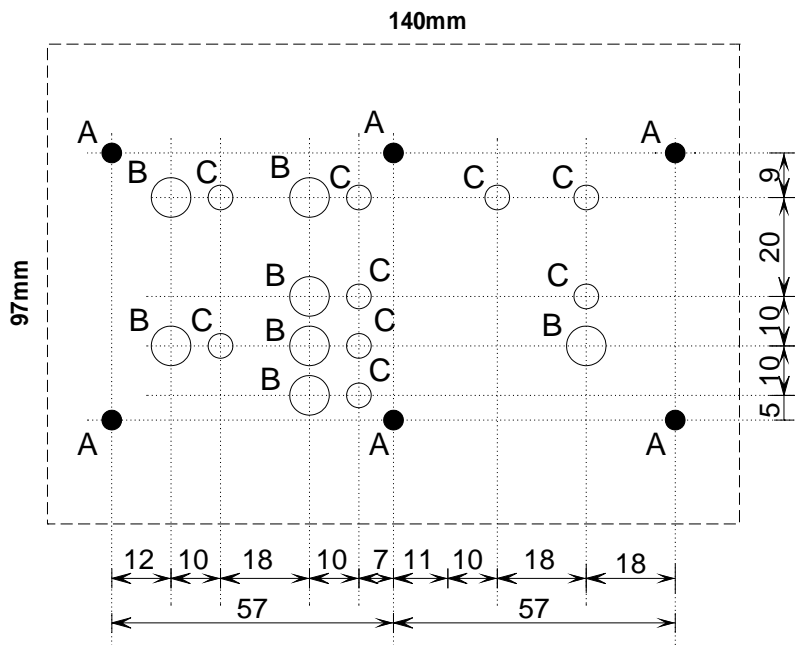
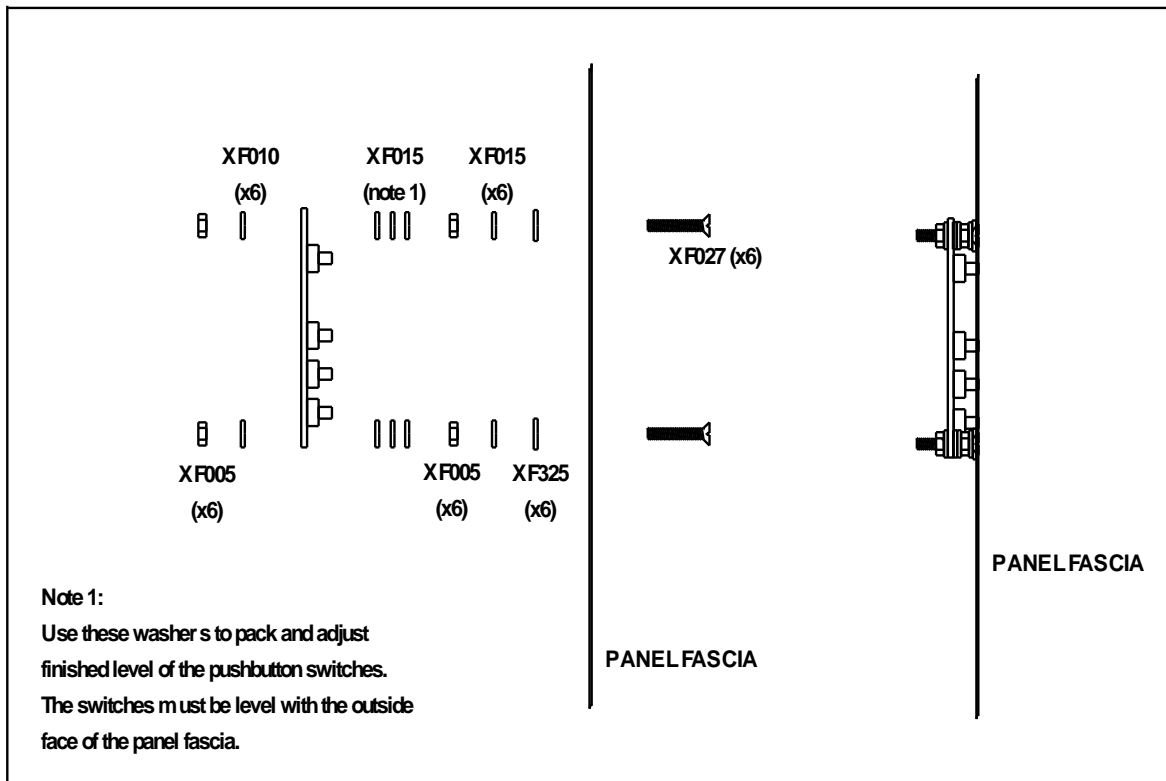

Figure 11 Drilling details required on panel fascia
Figure 12 Assembly on Existing Panel Fascia
1. Solder 100uF/100V capacitor and leads to the Audio Transformer (TX290) (see Figure 11).
2. Mount the transformer on the optional equipment plate (CB486) using 2 x M4 bolts as shown in figure 12.
1. Mount the display board and decal label as in section 4.4.2 on page 22, Figure 11 on page 22 and Figure 12 on page 23.